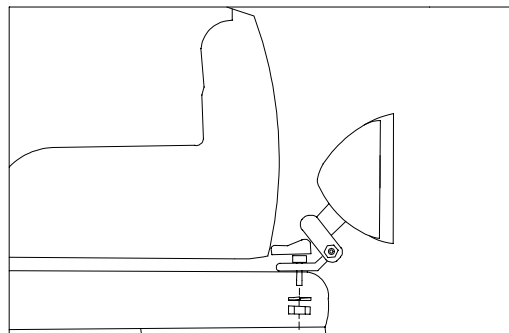

Fig. 3
3. Attach lamp base to the bumper. Do not tighten completely until lamp is properly aimed. **(See Fig. 3)**